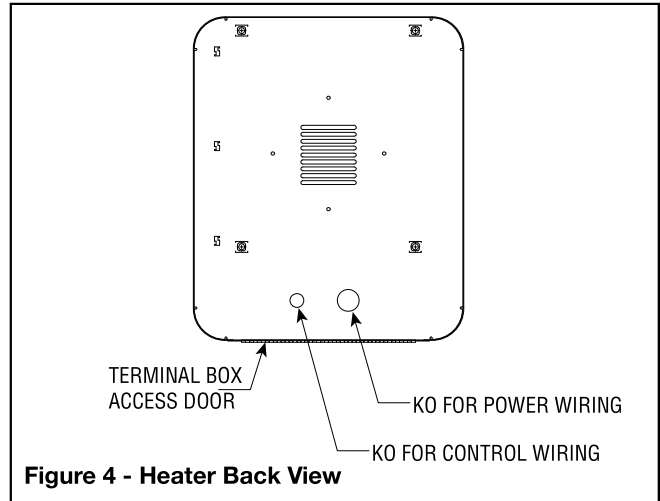

Figure 4 - Heater Back View
3. Two knockouts are provided on the back of the heater for wire entry. See Fig. 4 for location of knockouts.